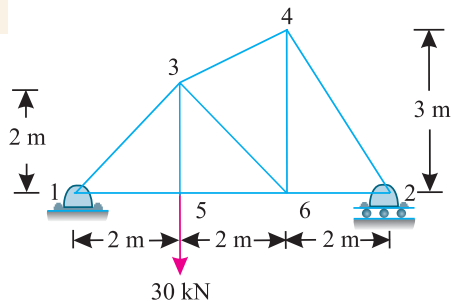

Fig. 13.21.
3. A plane truss of 6 m span is subjected to a point load of 30 kN as shown in the figure 13.21. Find graphically, or otherwise, the forces in all the members of the truss and tabulate the results.